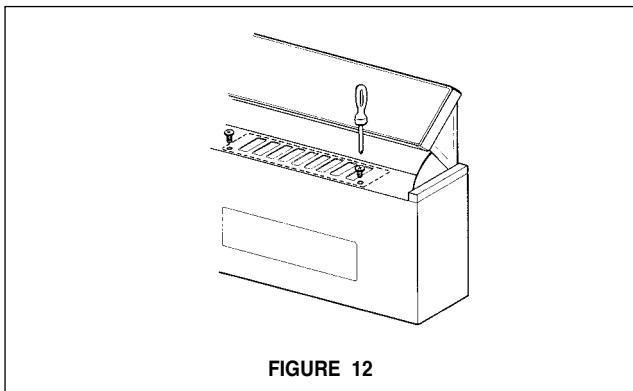

FIGURE 12
5. Attach the cover behind the exhaust grate with two silver screws supplied with the rangehood as indicated in **FIGURE 12**.